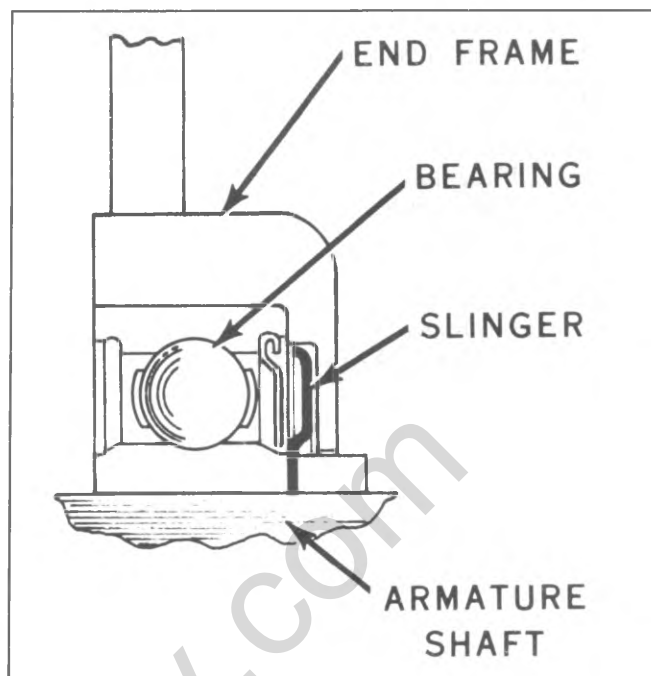

Fig. 6D-14C--Drive End Bearing Cross Section
3. Press bearing into end frame using tube or pipe as in Step 1 with bearing and slinger assembled as shown in Figure 6D-8C.